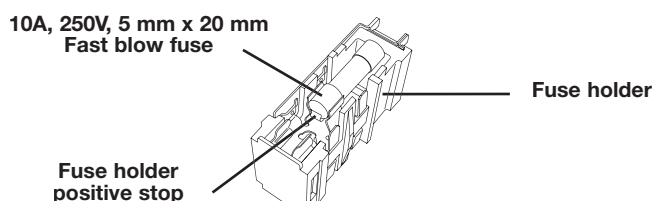

Fig. 21
4. Remove both fuses from the fuse holder and check for continuity. If either fuse has no continuity, the fuse has blown and must be replaced. Replace fuses with only the same type and rating. Spare fuses are available for purchase from your authorized Swagelok service center. See Fig. 21.
5. Reinstall the fuses, taking care that the fuses are fully seated against the positive stops on the fuse holder. See Fig. 21.